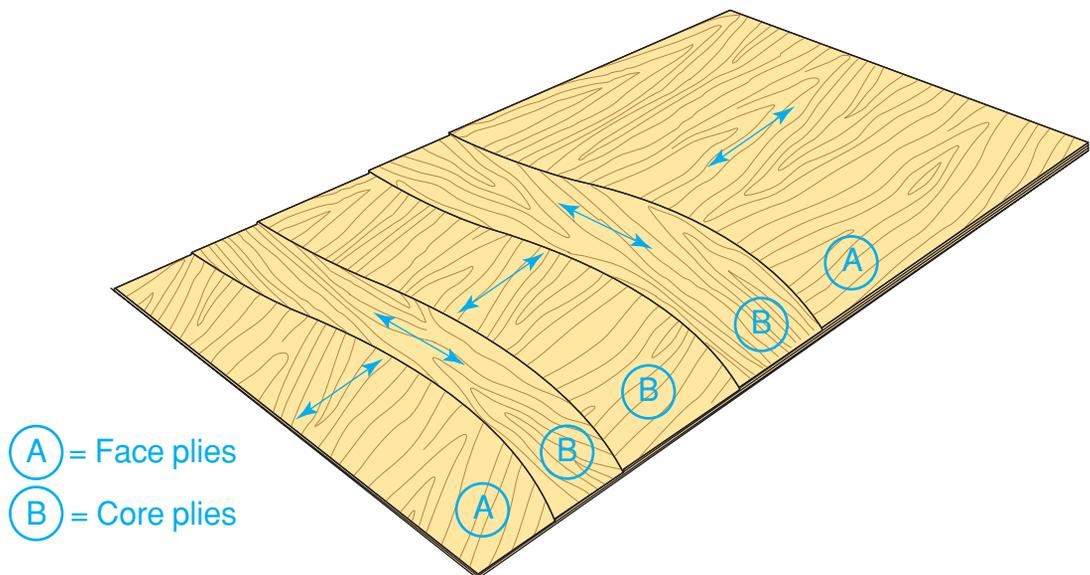

Figure 13-2 Structural Plywood
the panel, as shown in **Figure 13-2**. The outermost plies are called *face plies* (A). The face ply of best quality is called the *front face*, or *face*. The other is called the *back face*, or *back*. The plies between the two face plies make up what is called the *core* (B). Plies that are arranged at a 90° angle to the face plies are called *crossbands*.